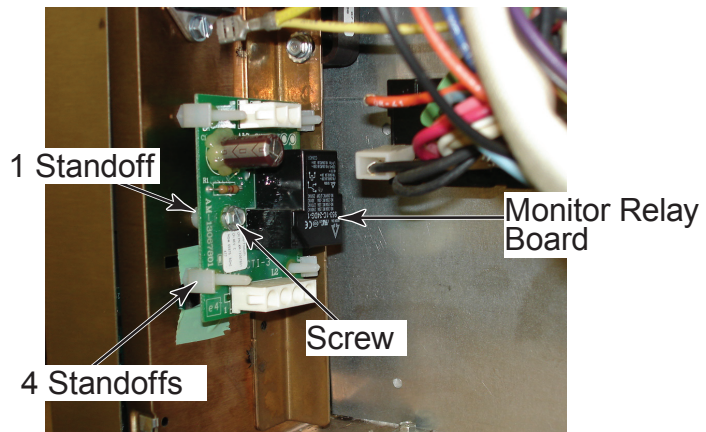

Figure 2
4. Install 4 standoffs onto 4 corners of monitor relay board and 1 short standoff where screw mount goes thru board (Figure 2).
5. Mount relay board with screw provided onto lower rear of vertical keyboard with the two pin connector on top (Figure 2).